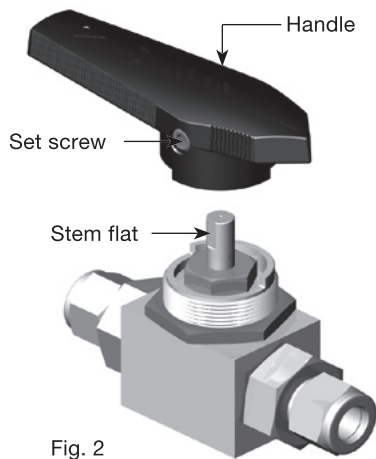

Fig. 2
1. Loosen the **set screw** in the handle. Fig. 2
5. Holding the **top bracket** against the **handle**, turn the handle **right side up** and place the **handle** on the valve stem, aligning the **stem flat** and **set screw**. Fig. 2.